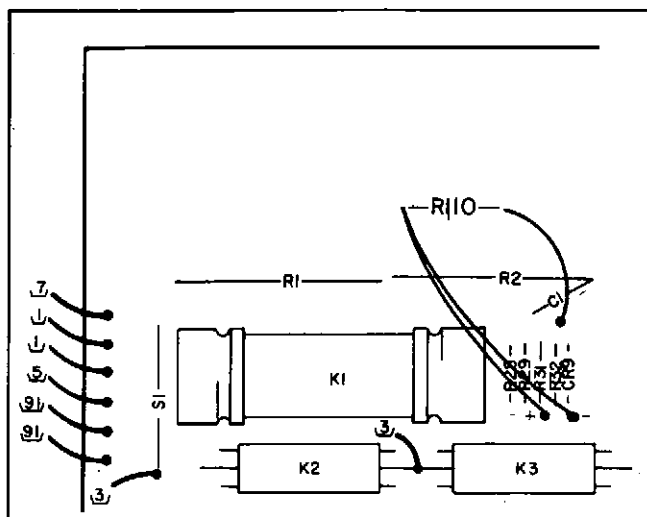

Figure 5-2. 1 Volt Zero Adjustment.
k. Remove the top covers and note the value of A10R106 — if there is an R110 installed (see Figure 5-2). Refer to Table 5-1 and record the Offset Voltage that corresponds to the current value of A10R110: _____. (If there is no A10R110, record 0.000000 V.) If R110 is connected to the terminal marked "+", the polarity of the Offset Voltage is *negative*; if R110 is connected to the terminal marked "-", the polarity of the offset is *positive*.
n. Remove the original A10R110 (Figure 5-2). If the total offset (Step l) is positive, connect the new R110 between the unmarked terminal and the terminal marked "-"; if the total offset is negative, connect it between the unmarked terminal and the terminal marked "+".